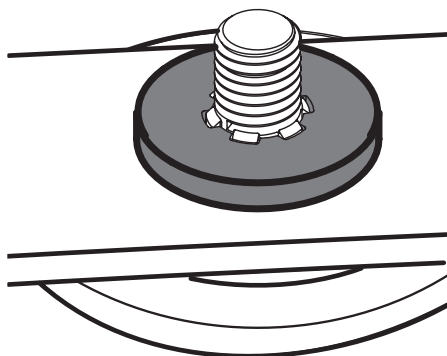

Figure 56
2. Carefully place the flat washer on the spindle shaft. Be sure that the splines at the base of the spindle shaft threads line up with the washer splines. See Figure 56.